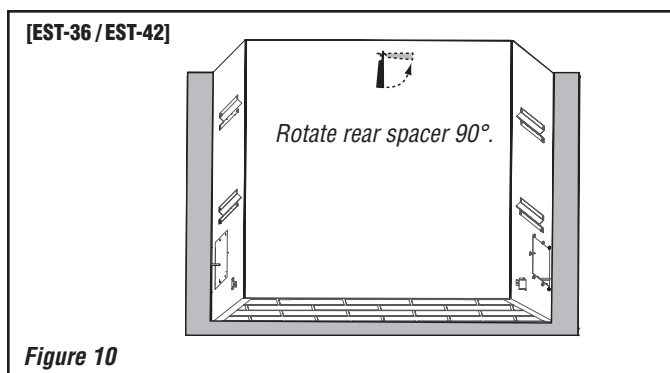

Figure 10
5.4. **EST-36/EST-42:** Refer to **Figure 10, below**. Rotate the rear spacer bracket 90° **COUNTER-CLOCKWISE**, and then push the rear panel flat against the rear wall of firebox.
6.9. Rotate the rear spacer bracket 90° **CLOCKWISE**, to a **VERTICAL** position behind the rear refractory panel (see **Figure 13, below**, also refer to **Figure 10, at left**).